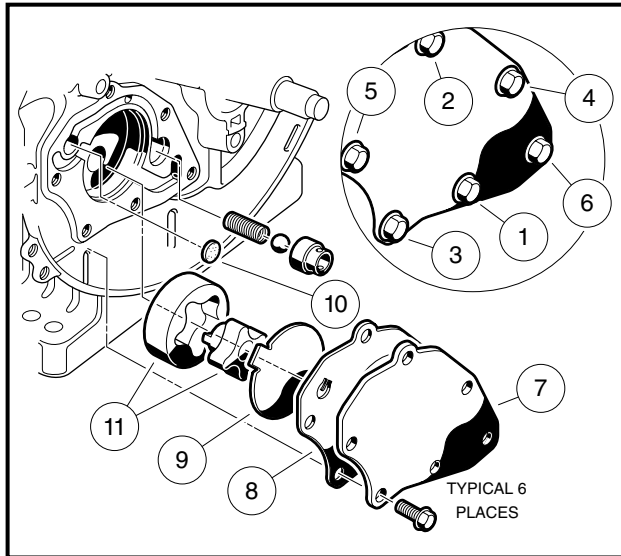

Figure 13-64 Oil Pump Removal
1. Remove the six screws (1-6) and remove the oil pump cover (7) (**Figure 13-64, Page 13-33**).
2. Peel off the oil pump cover gasket (8).
3. Remove the pump gear cover plate (9) and filter screen (10).
3. Remove inner and outer rotors (11) (**Figure 13-64, Page 13-33**).
3. Install six bolts (1-6) and finger-tighten. Then tighten to 7 ft-lb (9.5 N-m) in the sequence shown (**Figure 13-64, Page 13-33**). After tightening bolts, check the torque of the first bolt.